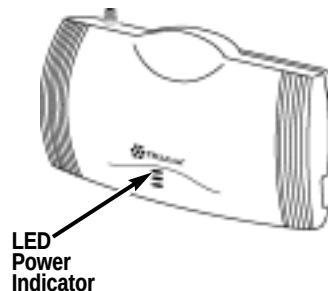

Figure 6
- 5) The LED Power Status indicator (located on the front of the FWT) will turn green immediately upon connecting to power - **see Figure 6.**